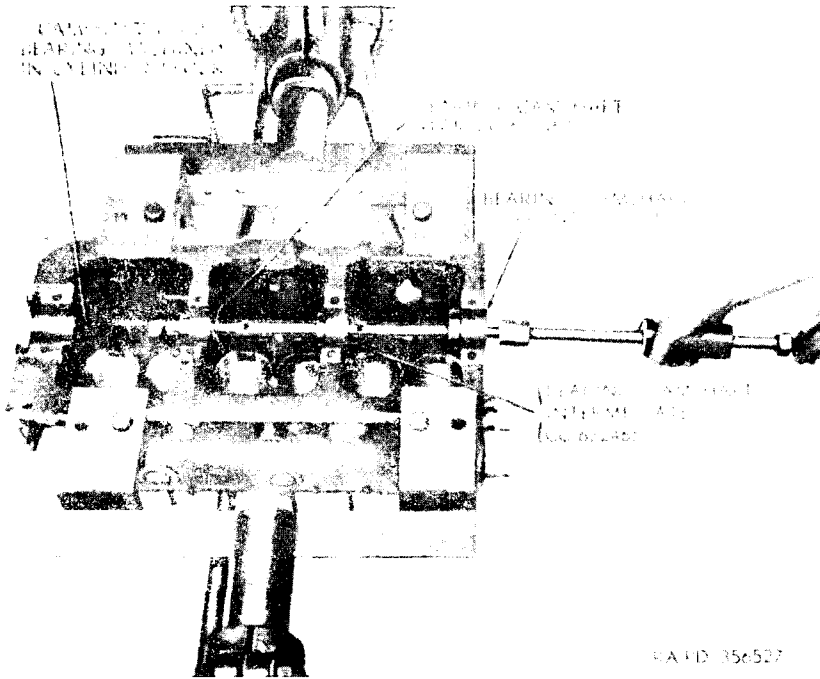

Figure 35. Removing camshaft bearings with remover and installer—41-R-2386.
- (1) Use remover and installer—41-R-2386 (fig. 35) to remove the camshaft bearings.
- (2) Select the proper size tool adapter for each of the three bearings to be removed.
- (3) Insert the adapters into the bearings from the rear.
- (4) Insert the puller shaft through the adapters and install one of the horseshoe collars behind one adapter.
- (5) Slide the hammer of the tool against the outside nut on the driving rod with sufficient force to start the bearing and repeat the operation until the bearing is out of the bore. Leave the adapter in the block to guide the puller shaft and pull the other bearings in the same manner.